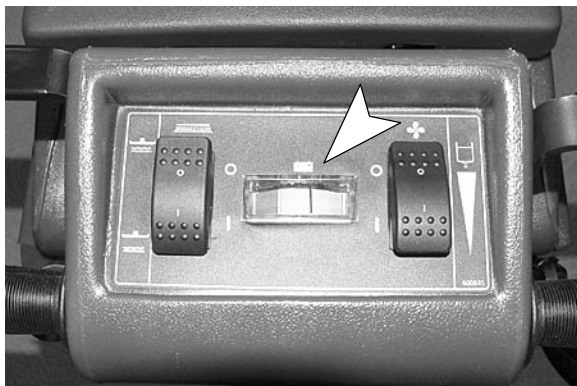

FIG. 16
6. Periodically check battery meter's discharge level. When needle drops to the red zone, recharge batteries (Figure 16).